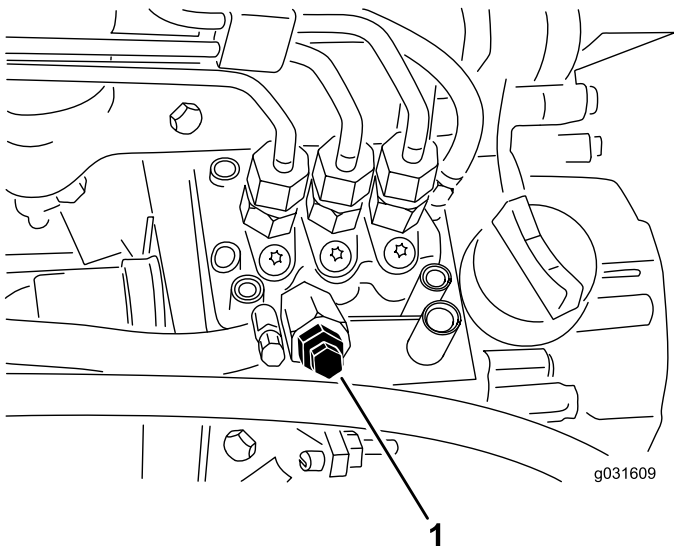

Figure 52
4. Open the air-bleed screw on the fuel-injection pump (Figure 52).